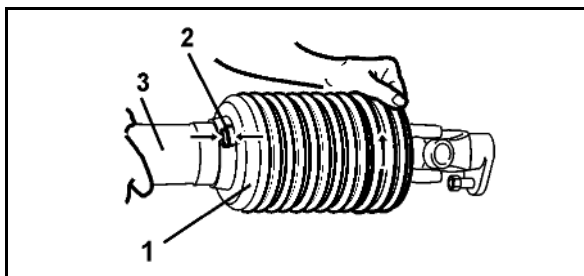

Fig. 56
3. Turn the PTO shaft guard (Fig. 56/1) to the installation position.
4. Pull off the guard half (Fig. 56/3).